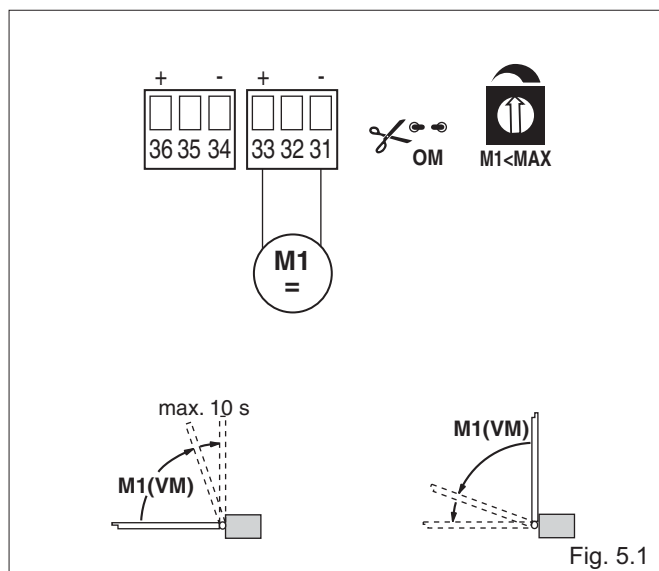

Fig. 5.1
- (Fig. 5.1) Use without limit switches